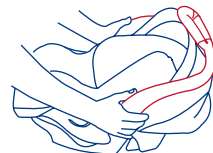

Fig. 27-1
- Slowly rotate the handle to the desired position. The buttons should pop out and the handle should automatically lock into the new position. (Fig. 27-1)